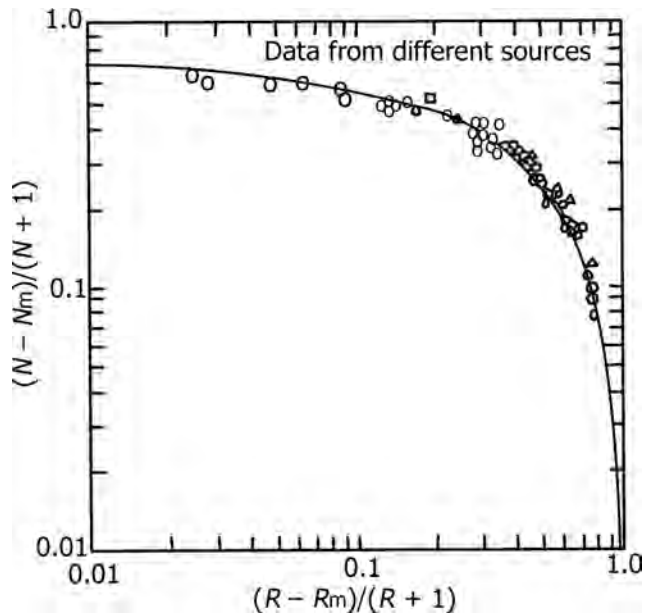

FIGURE 17.24 Gilliland correlation on log-log coordinates.
- These correlations require R , N_m , and R_m (Figures 17.24–17.26).